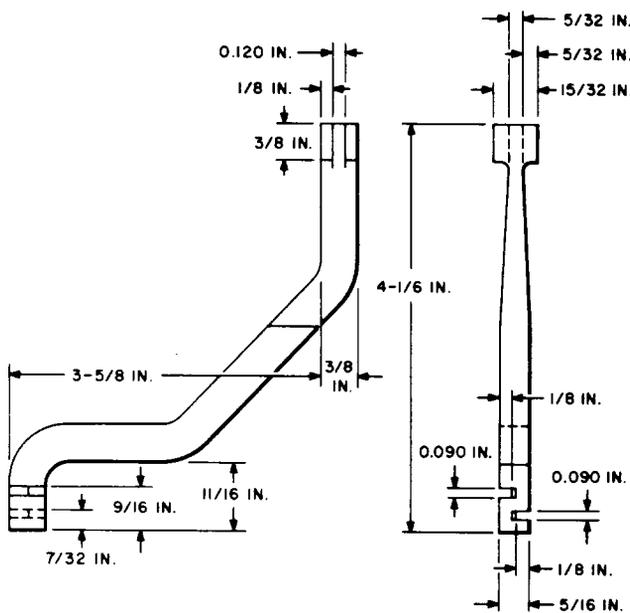

Fig. 10—R-1760 Adjuster Tool
2.10 R-1760: The R-1760 adjuster tool (Fig. 10) is used on the 200-, 206-, 209-, and 211-type selectors, 25-point rotary switches, and 1-type translators.